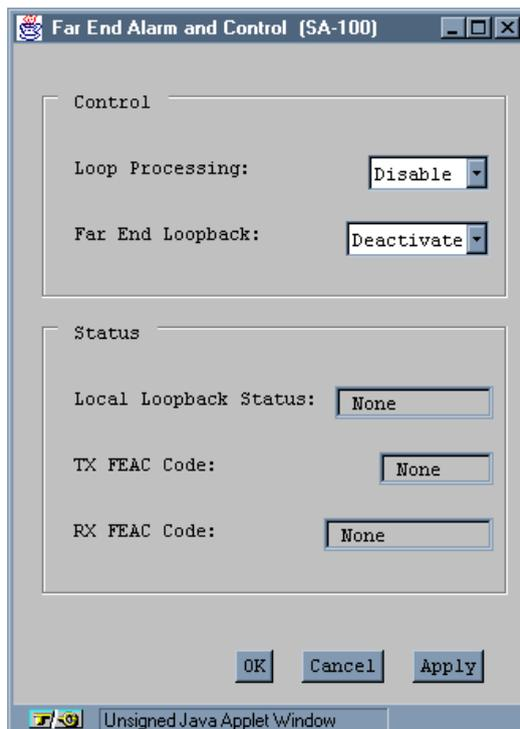

Figure 4-20. Far End Alarm and Control Window
1. Select the FEAC button from the Configure D3 Port window. The Far End Alarm and Control window appears (Figure 4-20):